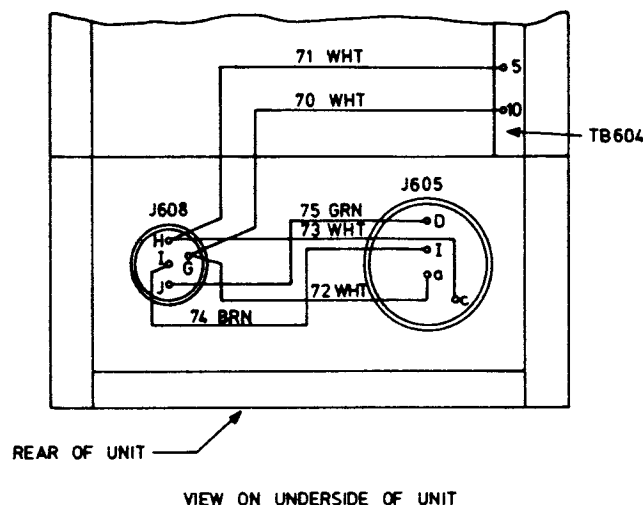

Fig. 13 Coder Indicator Wiring Change
20. Modification A3831 permits the coder indicator to be used in URN-3A beacon installations. The modification provides a method of mechanically locking switch S601 in the ON position and changes to wiring between connectors J605, J608 and TB604, see Fig. 13. Diagrams affected are Figures 6-23 and 6-41.